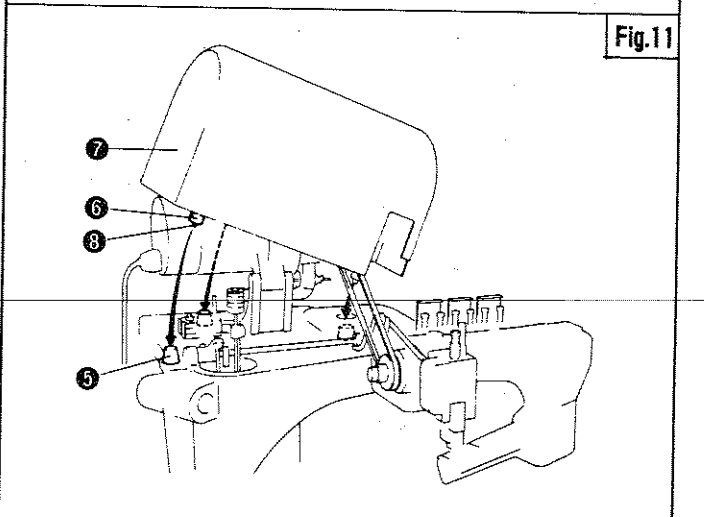

Fig.11
### MOTOR COVER INSTALLATION (Fig. 11)
Refer to Fig.11 and fit ⑤~⑦ in sequence.
- Collar ⑥ is used to adjust the height of Motor Cover ⑦.
- When attaching Collar ⑥ to Support Shaft ⑧ of Motor Cover, adjust the height of Motor Cover so that a clearance is made between Pedestal Pin and Support Shaft to prevent vibration.